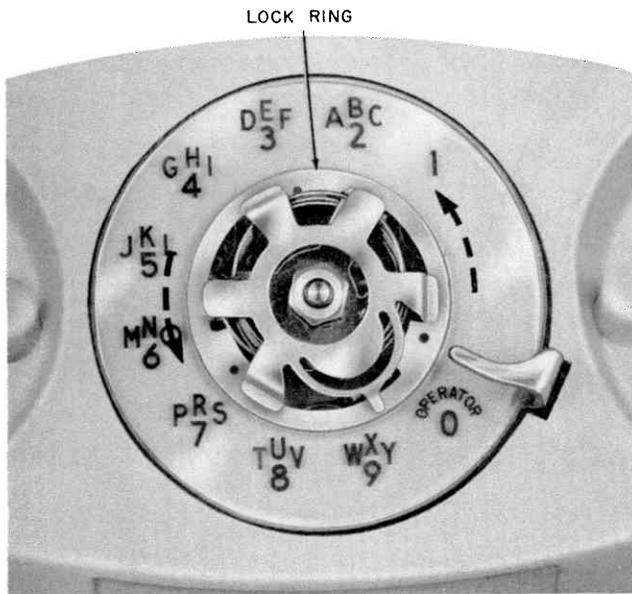
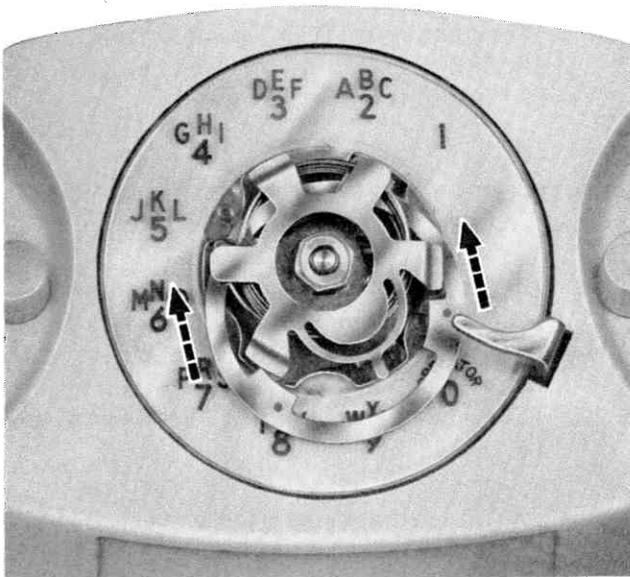

Fig. 21 — 8-Type Dial, Fingerwheel Removed to Show Lock Ring
Fig. 22 — Lock Ring in Extreme Forward Position for Removal
- (1) Remove plastic fingerwheel (see 3.23).
- (2) Remove lock ring by rotating ring counterclockwise until it is free (Fig. 21). Then raise ring until it is just under clamp plate and slide toward rear of dial (Fig. 22) until upper end of ring can be lifted over clamp plate. Slide ring toward front of dial and remove.
- (3) Lift number plate off dial.
- (4) Before placing new number plate on the dial, wipe face of light shield clean.